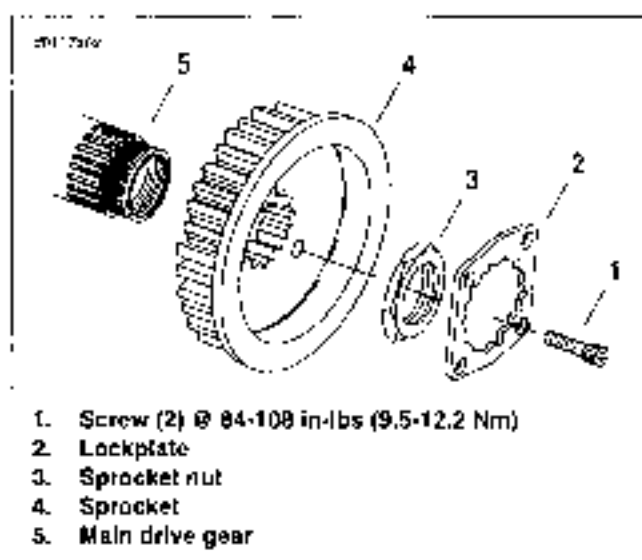

Figure 6-25. Transmission Sprocket
- a. See Figure 6-25. Remove both screws (1) and lockplate (2).
2. See Figure 6-25. Apply LOCKTITE THREADLOCKER 262 (red) to sprocket nut (3) threads. Thread the sprocket nut counterclockwise onto main drive gear, with flange side facing transmission sprocket.